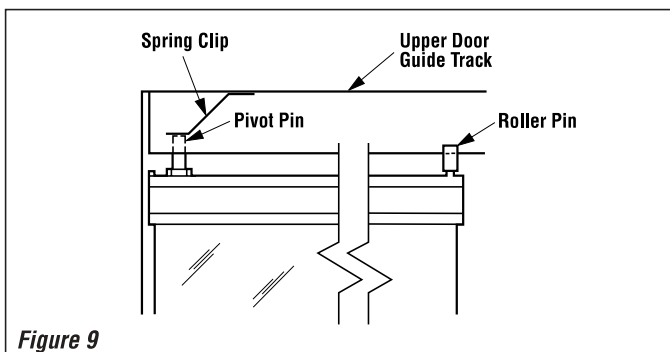

Figure 9
Step 4. Continue to carefully move the door until the upper pivot pin slips into the upper door guide track hole and engages the spring clip, which locks it into place (**Figure 9, below**).